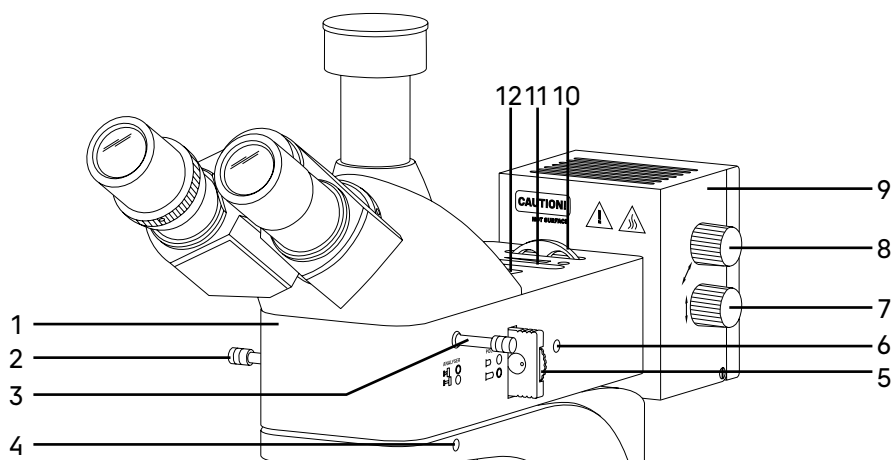

Fig. 4. Reflected light illuminator
The reflected light illuminator is shown in Fig. 4.
The illuminator body 1 (Fig. 4) is mounted on top of the stand and secured with the screw 4 (Fig. 4) using an Allen wrench. The illuminator body houses:
- a polarizer/analyzer set: rotating polarizer 5 (Fig. 4) and built-in analyzer 3 (Fig. 4)
- a field diaphragm 12 (Fig. 4) and an aperture diaphragm 11 (Fig. 4)
- a fixed ring with a color filter set 10 (Fig. 4) that has five positions, including a free slot and 4 filters: frosted glass, yellow, green, and blue
- lever 2 (Fig. 4) for switching to the reflected/transmitted light mode. For transmitted light observations (to study transparent and translucent films and objects), pull out the lever 2 (Fig. 4) all the way; to enable the reflected light microscopy (to illuminate opaque objects, such as metals and alloys, and observe the surface of a sample to reveal its texture, microstructure, and defects), set the lever to the pushed-in position.
The polarizer 5 (Fig. 4) is located in the illuminator between the light source and objectives. The polarizer has two positions: free slot and polarization filter. The polarizer rotates 0–360°. It should be inserted all the way in to be introduced into the optical path. Polarized light is transmitted through the objective to the specimen.
The analyzer 3 (Fig. 4) is located between the objective and the microscope head. The analyzer has two positions: free slot and polarization filter. It should be inserted all the way in to be introduced into the optical path.
The lamphouse 9 (Fig. 4) is secured to the illuminator 1 (Fig. 4). Inside the lamphouse is the light source – halogen bulb. The bulb is centered on three axes by the knobs 15 (Fig. 2) and 7, 8 (Fig. 4).